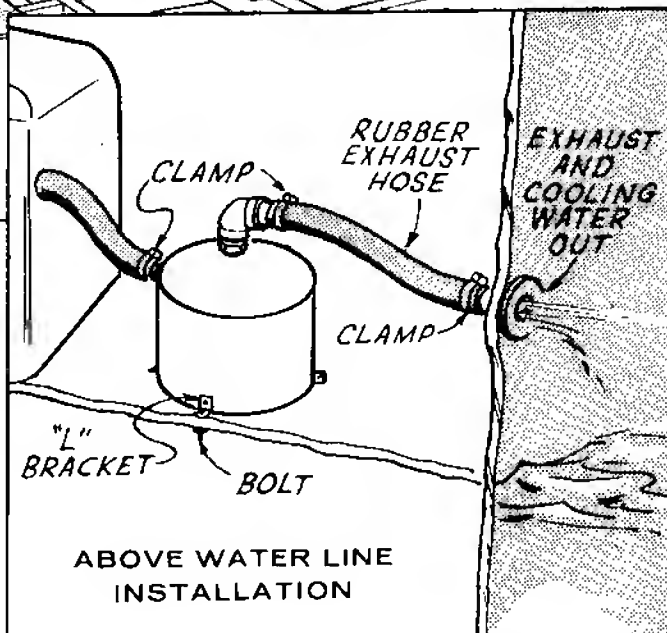

Figure 1. Typical Installation
Proper installation is very important. Give attention to the following points: Adequate generator cooling air, discharge of circulated air, adequate fresh air, adequate engine cooling water, discharge of circulated water, discharge of exhaust gases, electrical connections, fuel connection, sturdy and flat floor and accessibility for operation and service. Use this manual as a guide to help with the installation. Refer to Typical Installation, Figures 1 and 2. For more complete instructions, request Onan Technical Bulletin T-021.
See Installation, Fig.1 and 2. The engine exhaust connection is 1", pipe-tapped. Pipe exhaust gases outside of the hull - *exhaust gases are deadly poisonous!*
4. Use flexible hose or tubing (see Fig.1 and 2).